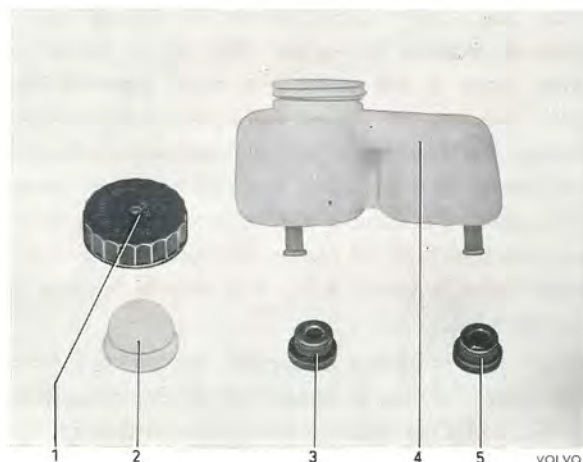
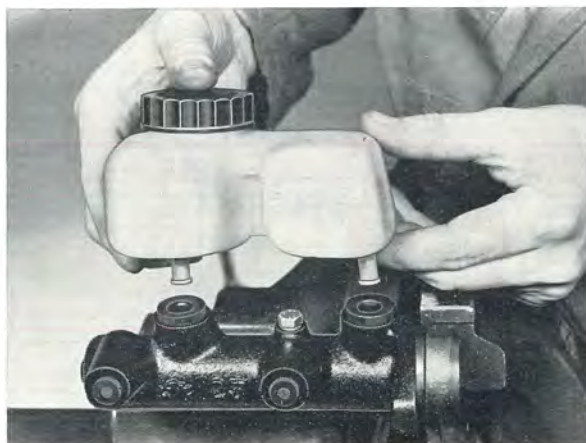
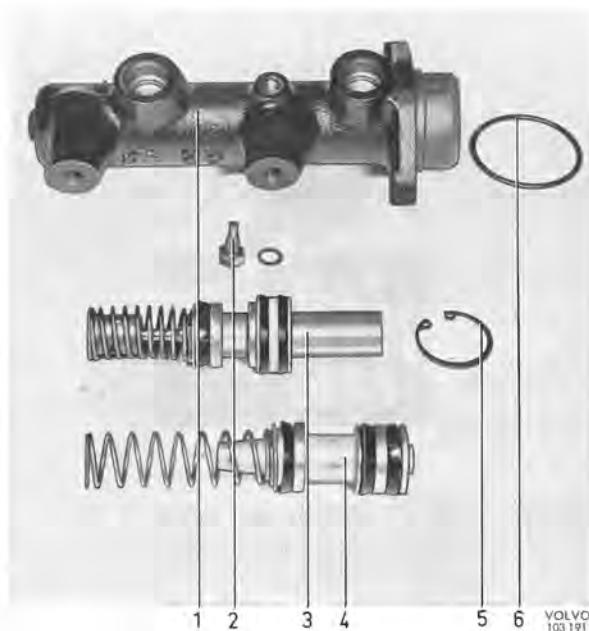

Fig. 5-46. Container parts
Fig. 5-45. Removing container
Fig. 5-48. Master cylinder disassembled
1. Fix the flange of the master cylinder firmly in a vice, see Fig. 5-45.
2. Place both hands under the container and pull it up from the rubber seals. Remove the filler cap and strainer from the container and also the rubber seals from the cylinder, see Fig. 5-46.
If wear on the cylinder or secondary piston is suspected, the diameter should be measured with a micrometer or indicator. The cylinder bore must not exceed 23.92 mm (0.942") and the diameter of the piston may not be less than 23.66 mm (0.931"). Each time reconditioning is carried out, replace the primary piston (3, Fig. 5-48) and the secondary piston (4, Fig. 5-48) complete as well as the stop screw (2) with washer and circlip (5), also the sealing ring (6). Moreover, the rubber seals (Fig. 5-46) for the container should be replaced.
4. Dip the piston and the seals in brake fluid and fit the piston in the cylinder, see Fig. 5-52. Press in the piston and fit the circlip (5, Fig. 5-48).
5. Check that the hole for the stop screw is clear and fit the screw (2, Fig. 5-48) with a new sealing washer. The tightening torque is 5–8 Nm (3.6–5.7 lbf).
- Fit the rubber seals (3 and 5, Fig. 5-46). Fit the brake fluid container, see Fig. 5-45. Fill the container with brake fluid and bleed the cylinder. Place plastic plugs in the cylinder. Check to make sure that the vent-hole in the cap (1) is open and fit the strainer (2) and cap in position.